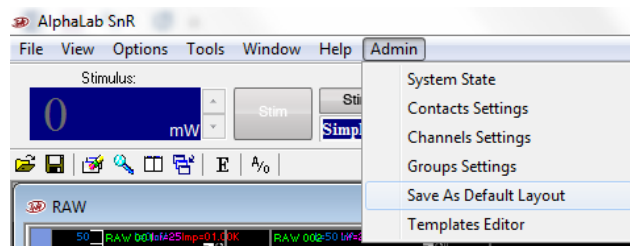

Figure 16: saving layout
*Note: After defining all desired windows and arranging the layout, you may save your layout by pressing **ctrl+shift+S** to get admin permission, and then select **save as default layout** (see Figure 16)*